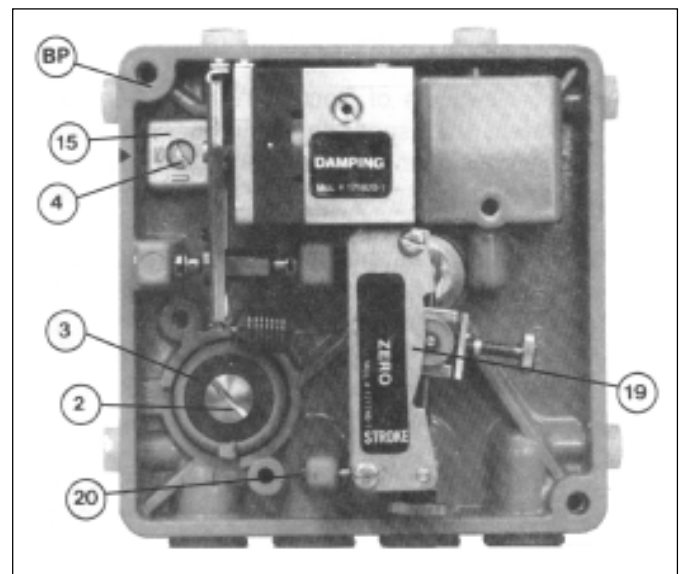

Figure 16
B. Manual Bypass Setting: (See Figure 16)
1. There are two positions for the pneumatic bypass switch (3) to be in: